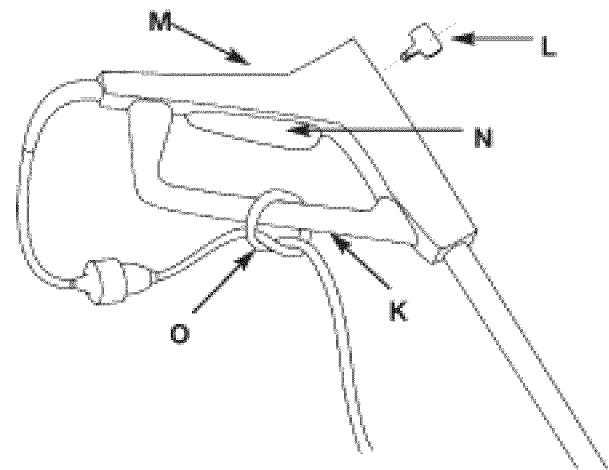

Figure 7
disconnecting during use, tie the extension cord into a loose knot around the lower bar (K) of the handle as shown in next step. (Figure 7, Item O)
2. Plug the extension cord into a wall outlet. Insert the key (L) into the slot in front of the hand-grip (M) (Figure 7)
3. Insert the key (L). Squeeze the On/Off Switch (N), as shown in Figure 7. Release the switch by releasing grip pressure.